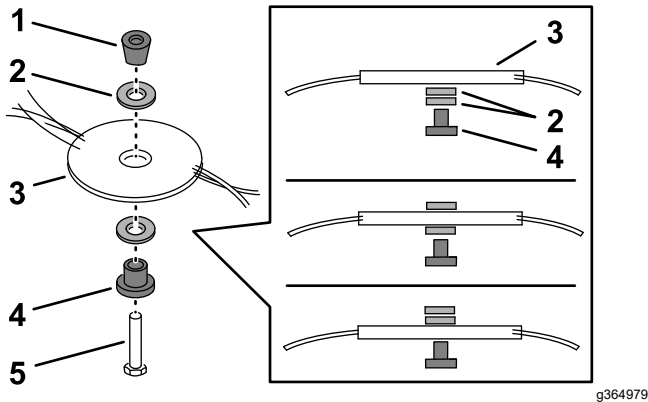

Figure 27
2. Change the position of the spacers to adjust the cutting height as shown in (Figure 27).